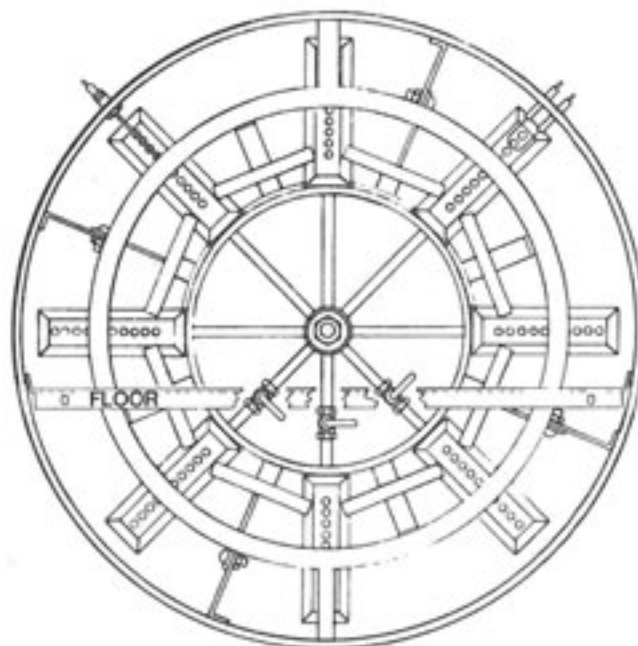

Figure 19 - LP Gas
- E. Go into the plenum chamber and move the coil closer to or away from the flame, see Figure 19.